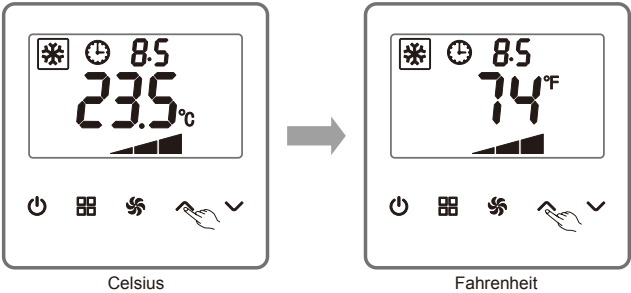

Figure 3
- (1) During the operation of the unit, press  (UP) or  (DOWN) to raise or lower the temperatures.
- (2) When the temperature unit is Celsius, one press of the UP key or the DOWN key causes a 0.5°C increase or decrease within 16°C~30°C.
- (3) When the temperature unit is Fahrenheit, one press of the UP key or the DOWN key causes a 1°F increase or decrease within 61°F~86°F.
- (4) When keeping pressing the UP key or the DOWN key, the temperature varies every 0.5 second.
- (5) As shown in Figure 3, the indoor ambient temperature display, if activated, will appear by default after the unit is started. A desired temperature being set appears temporarily. Later, the default temperature will reappear without any operation in 5 seconds.